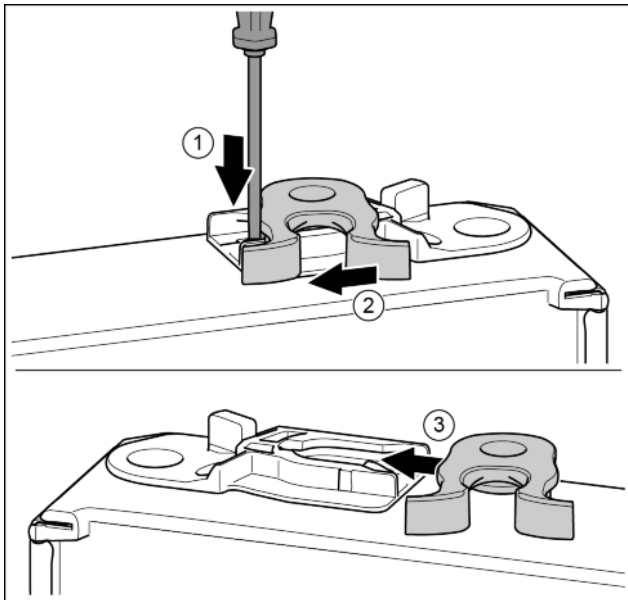

Fig. 18
- ▶ Push the tab downwards with a slotted screwdriver. Fig. 18 (1)
- ▶ Pull the door latch out of the guide. Fig. 18 (2)
- ▶ Push the door latch into the guide on the other side. Fig. 18 (3)